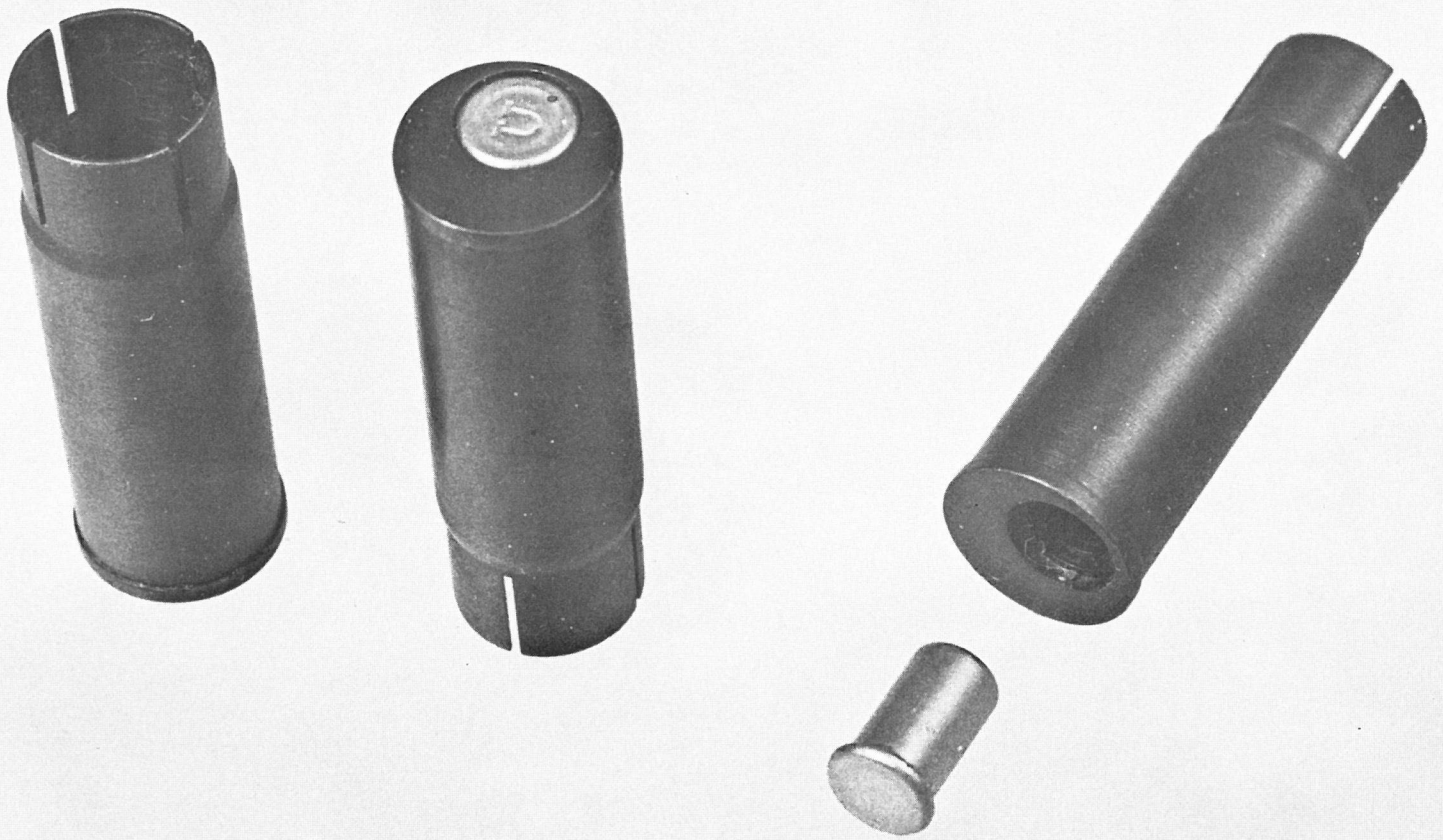

Figure 53. Pointer Fast-Draw Adaptor
53. *Pointer Fast-Draw Adapter (figure 53)*